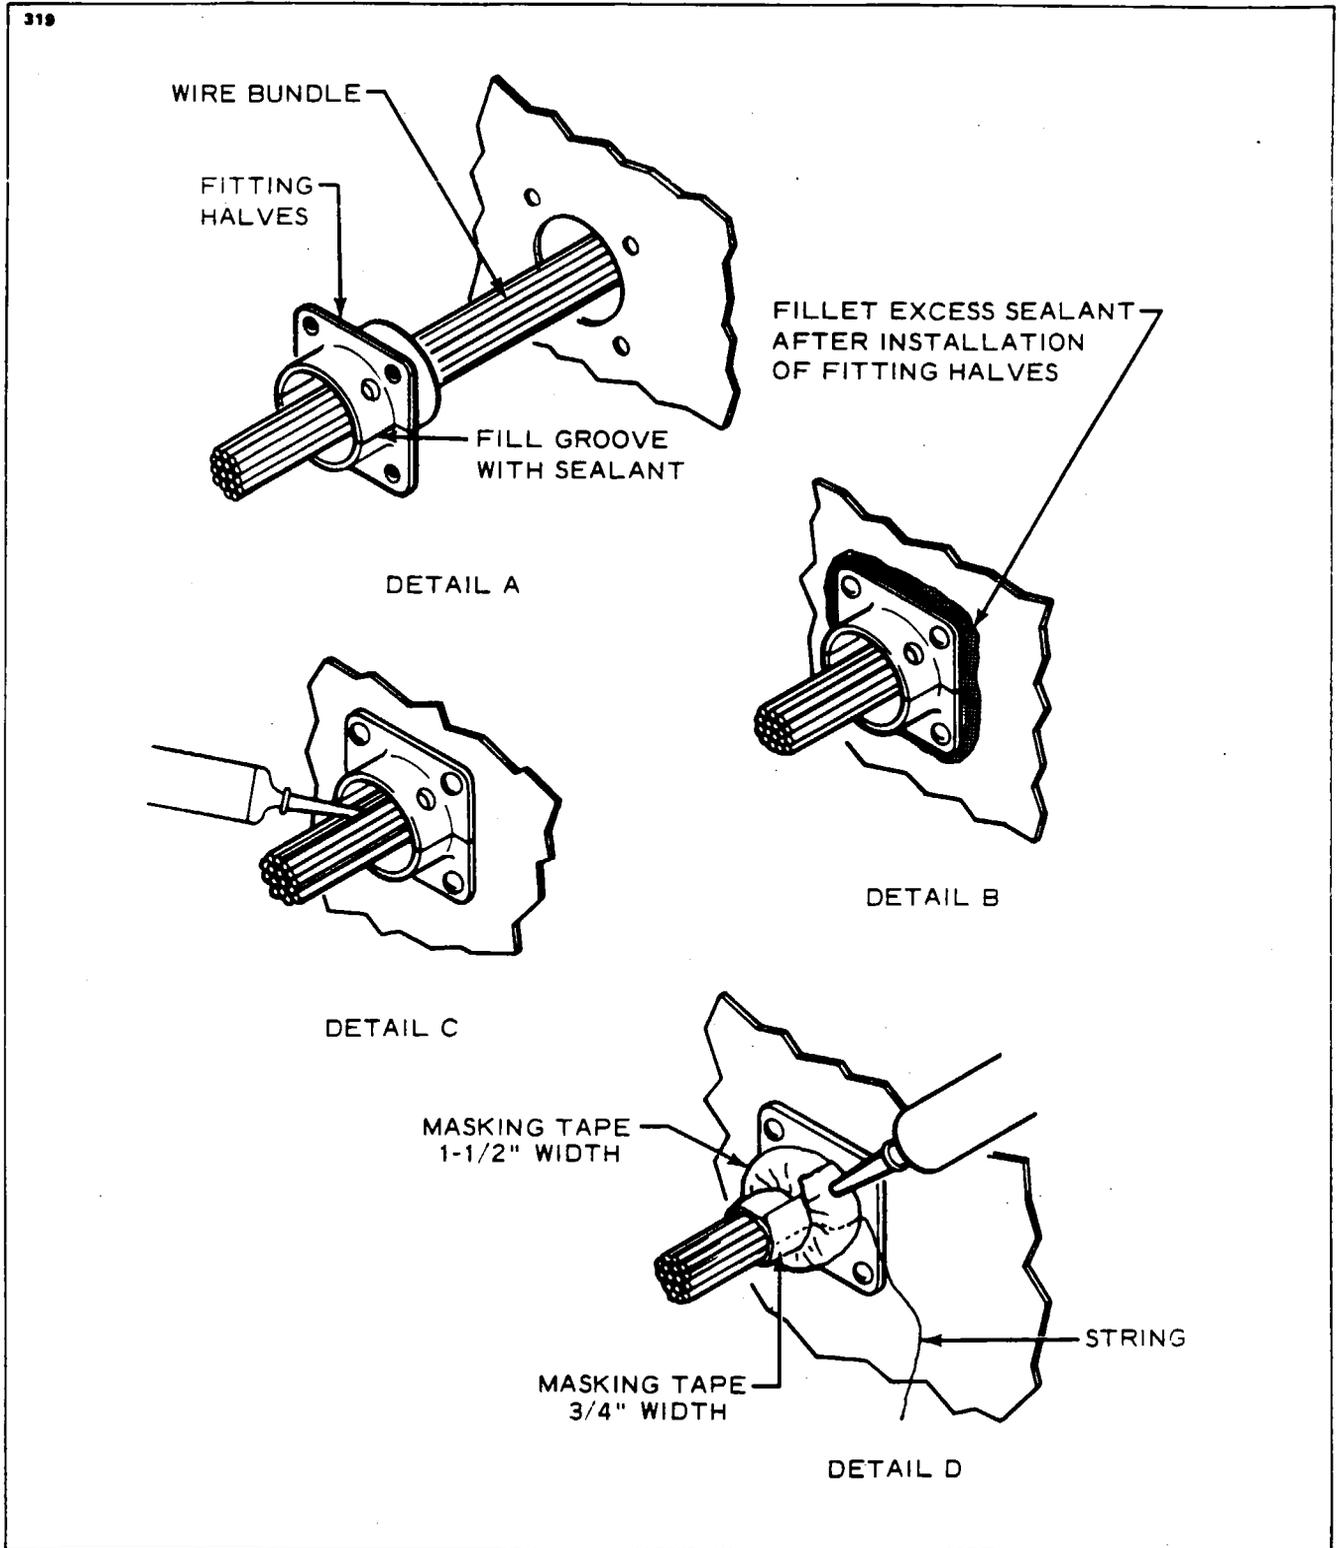

Figure 51-19. Wire Harness Seals
**SEALING ELECTRICAL HARNESSSES.** (Refer to Figure 51-19.)
- D. Fill the groove in the mounting flange of the fitting halves with sealant. (Refer to detail "A" of Figure 51-19.)
- F. Fillet seal the extruded sealant around the sides of the mounting flange as shown in detail "B" of Figure 51-19.
- G. Put the nozzle of the sealant gun in the center of the wire harness and work sealant throughout the wires inside the seal fitting as shown in detail "C" Figure 51-19.
- H. Place a strong piece of string against the seal assembly, parallel with the wires. (Refer to detail "D" of Figure 51-19.)
- I. Wrap the fitting halves with three turns of 1.50 inch wide masking tape. (Refer to detail "D" of Figure 51-19.)
- K. Wrap the crimped end with three turns of .750 inch masking tape. (Refer to detail "D" of Figure 51-19.)